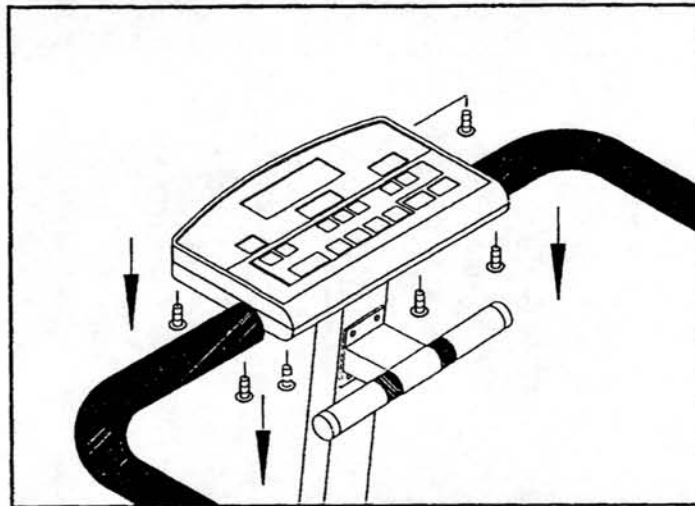

Fig.17-1
1. Disassemble the COVER OF PANEL by removing all screws (see fig.17-1)